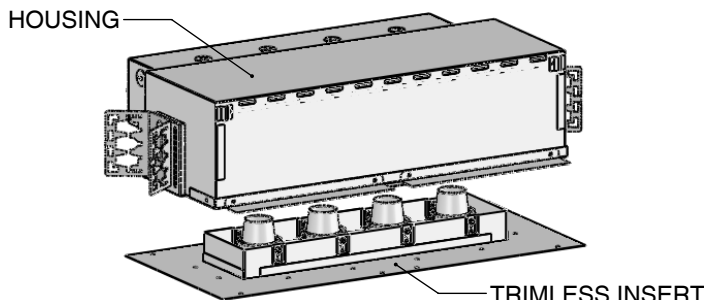

Figure 1
1. First remove TRIMLESS INSERT from Housing by pulling straight out. See Fig 1. Fixture must be mounted using either BUTTERFLY MOUNTING BRACKETS or HANGER BARS (Contact RSA Dealer for HANGER BARS).